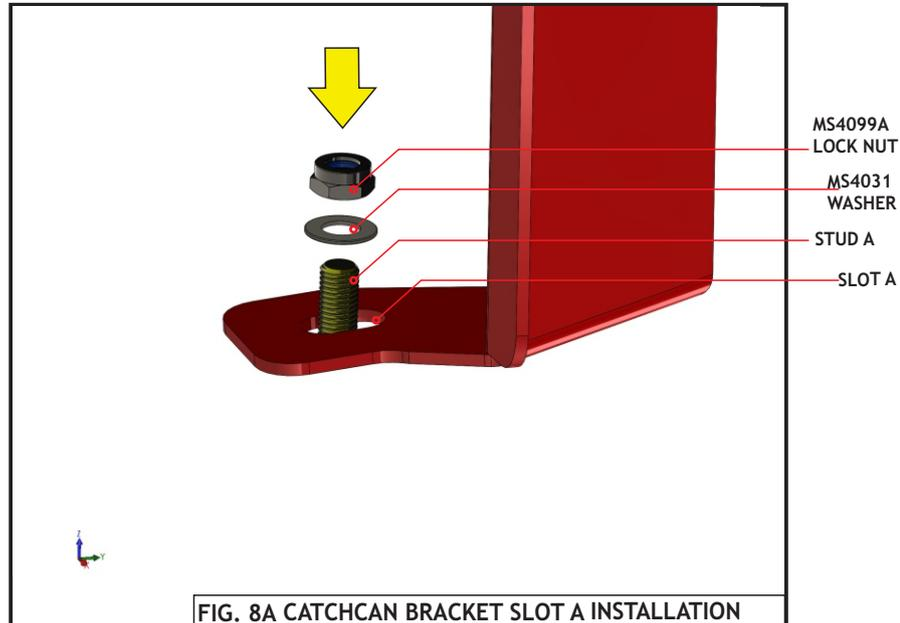

FIG. 8A CATCHCAN BRACKET SLOT A INSTALLATION
4. Install supplied MS4031 M8 Washer onto Engine bay Stud A, then screw on supplied MS4099A M8 lock nut onto Stud A. Refer to FIG.8A